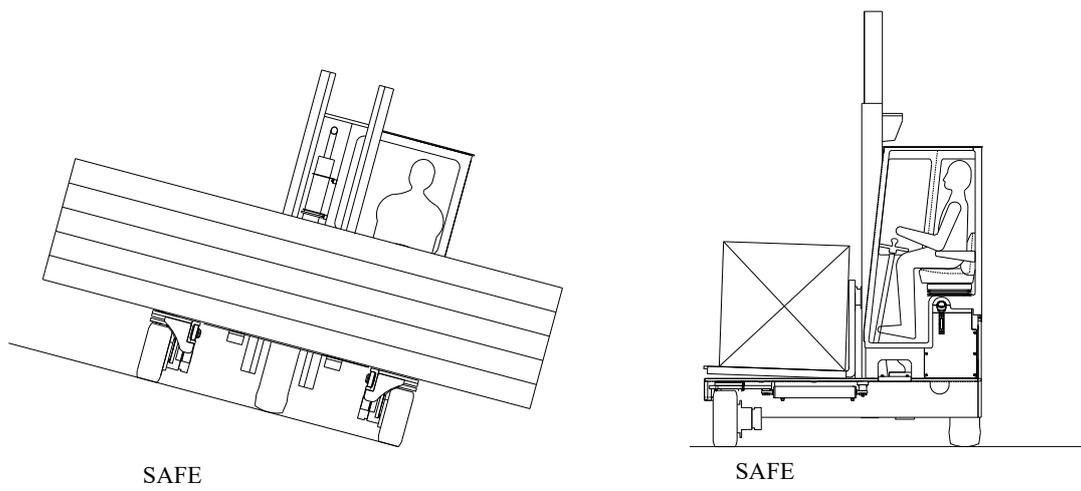

Figure 2: Correct Procedure
- Always travel with forks as low as possible. If loaded, rest the load on platforms where possible. (See figure 2)
- Ensure load is tight against face of forks. (See figure 2)